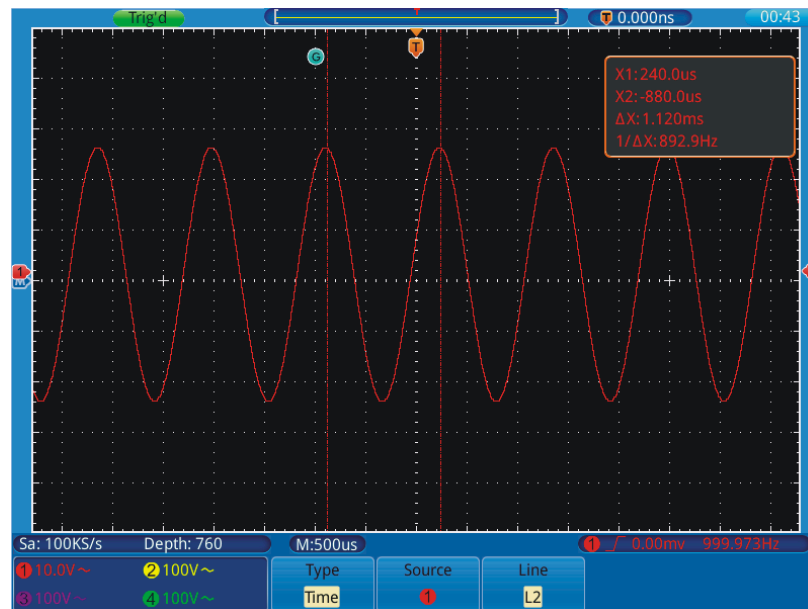

Figure 33. Waveform of Time Cursor Measurement.
- 2 Select **Source** in the bottom menu; select ① in the left menu.
- 4 Select **Line** in the bottom menu; select **L1** in the right menu. The **G** icon will appear beside the dotted line of L1, represents you can turn the **G** knob to adjust the position of L1. Select **L2** to adjust the position of L2. Select **L1&L2** to adjust the two cursors together. The cursor measure window at the top right shows the present time of cursor 1 and cursor 2, the absolute difference and the frequency (see Figure 33).